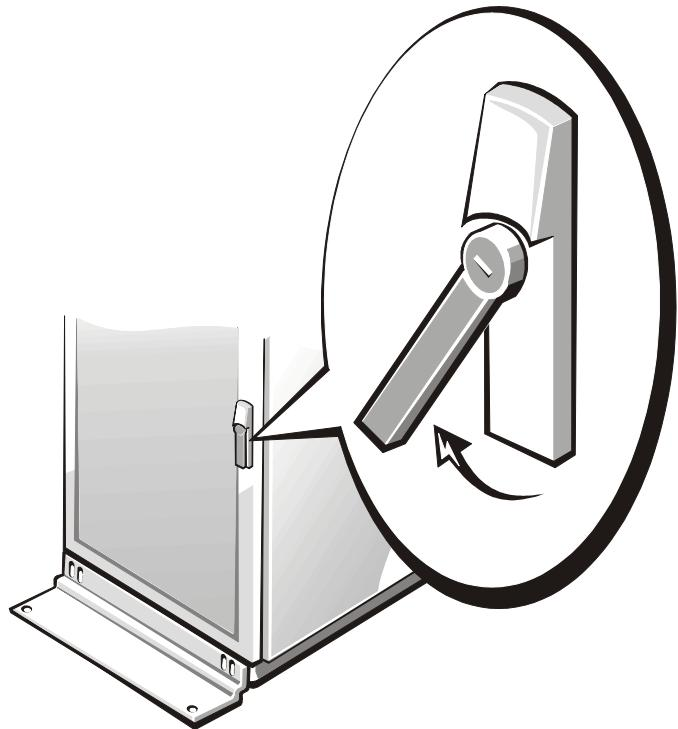

Figure 1-2. Opening the 24-U Rack Cabinet Front Door Latch
| Figure 1-2. Opening the 24-U Rack Cabinet Front Door Latch..... | 1-4 |
If you have a 24-U (1 U=1.75 inches) rack cabinet, unlock and twist the handle clockwise and open the door (see Figure 1-2).
4. Close the door latch by rotating the handle counterclockwise until it stops (see Figure 1-2).